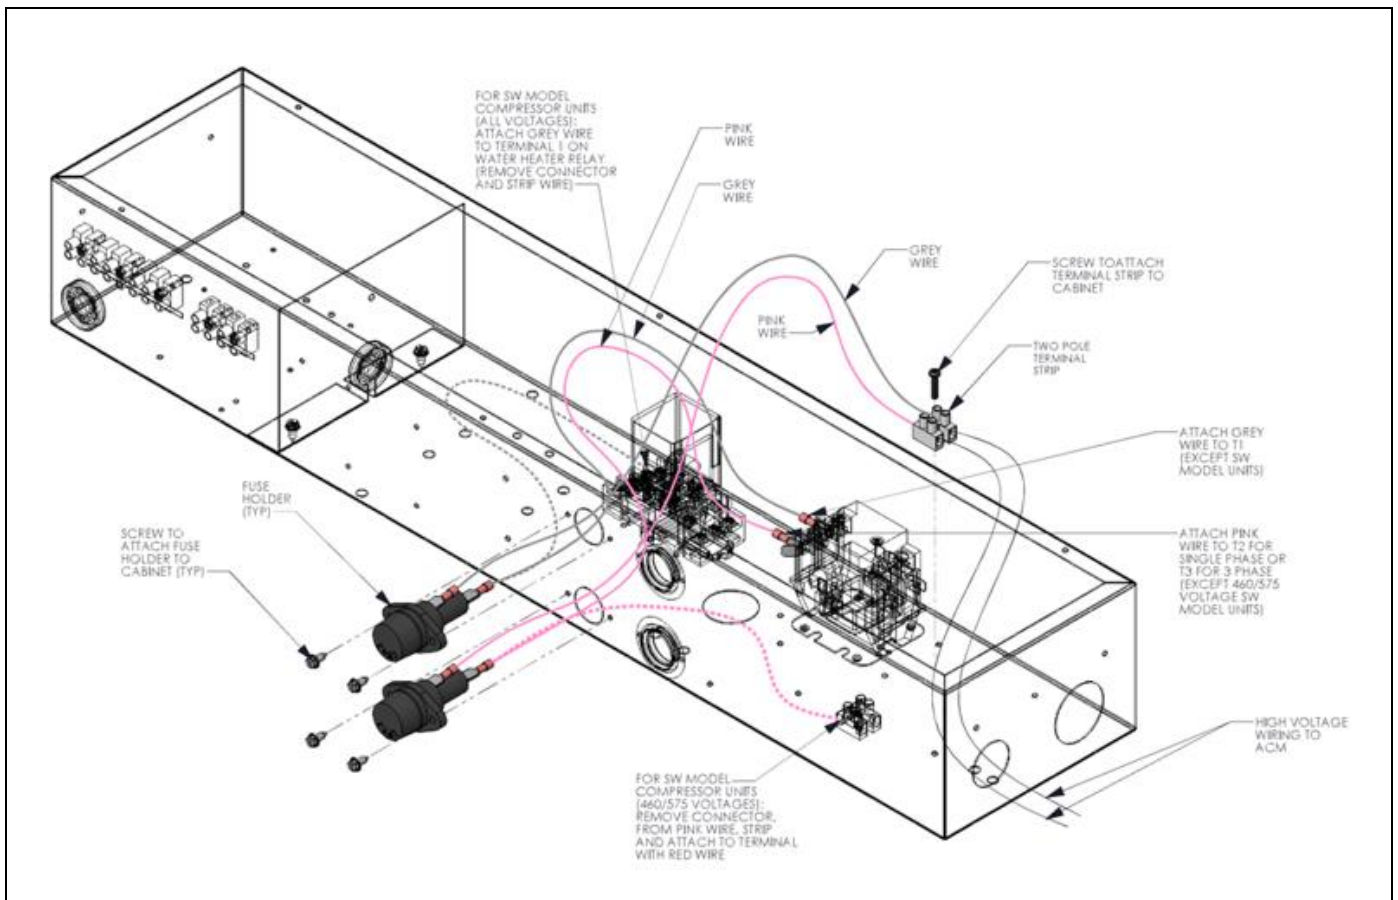

Figure 5. Compressor Unit Electrical Box
2. Reference Figure 5 for compressor unit electrical box. Remove available hole covers from the front of the electrical box.